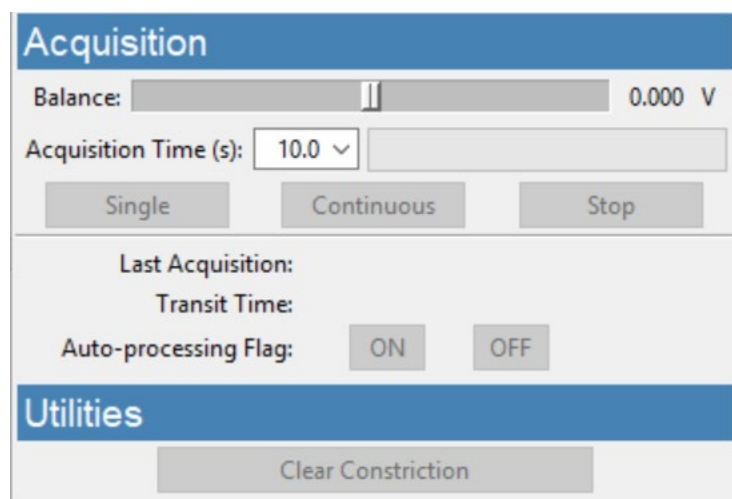

Figure 3. Screenshot of “Acquisition” and “Utilities” sections of the nCS1 experimental software.
4.9.1 Figure 3 shows a screenshot of the acquisition settings of the nCS1 software. Acquisition time can be chosen in the drop-down menu and there are buttons to pick “single” or “continuous” data acquisition.